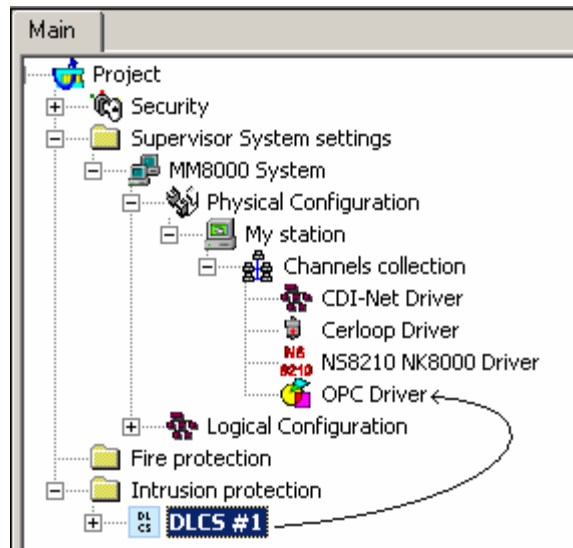

Fig 4 Linking DLCS node to the OPC Driver
3. Drag and drop the DLCS node to the OPC Driver node (see Fig 4).